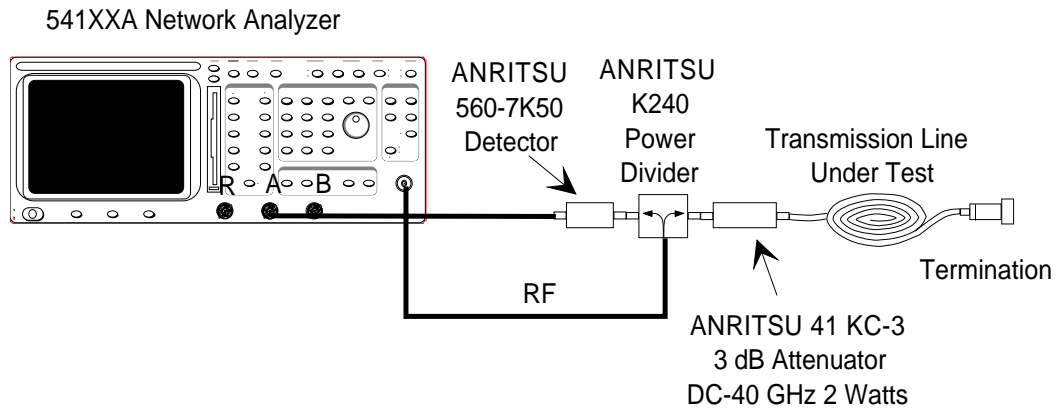

Figure 6-1. Standard Mode 541XXA DTF Test Setup
When using the DTF feature, the 541XXA can be operated in two modes. Best use depends on the accessibility of the transmission line to be tested. When the test equipment and the line-to-be-tested can be located close to each other, the standard mode setup (Figure 6-1) is preferred because of its simplicity.
Figures 6-1 and 6-2 show part numbers for K-type connector transmission lines. Refer to the “54100A Series Network Analyzer Configuration Chart” tabulation on page 8 of the 54100A Technical Data Sheet in Appendix A.
Step 1. Connect the test setup for a ratio mode measurement per Figure 6-1.